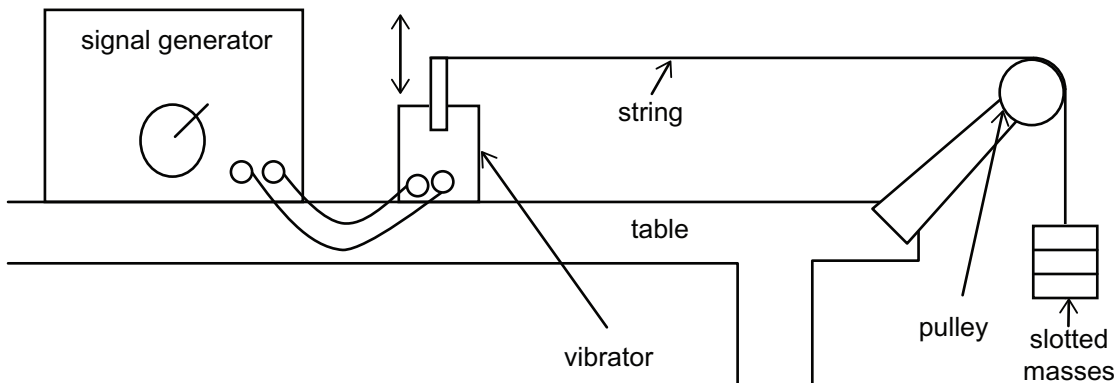

Fig. 3.1
One end of the string is attached to a vibrator and the other end is attached to a slotted mass hanger. The vibrator oscillates producing transverse waves in the string, with a frequency given by the signal generator to which it is connected. The string is looped over a pulley and the slotted masses hang freely, as shown in **Fig. 3.1**. At certain frequencies of vibration resonance is established and standing waves are set up on the string.
- (i) Explain how a value for the tension is determined in the arrangement shown in **Fig. 3.1**.
- (iii) On **Fig. 3.1**, clearly identify the length, l , that should be measured.
- (iv) Describe how you would use the apparatus in **Fig. 3.1** to obtain the wave velocity for a particular string tension.